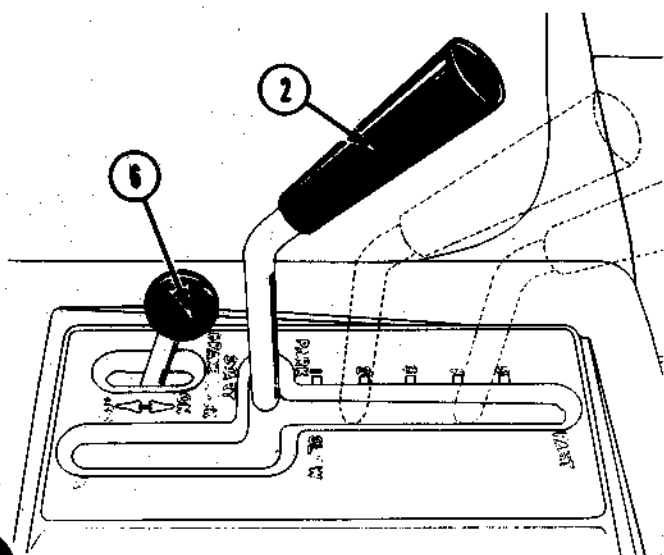
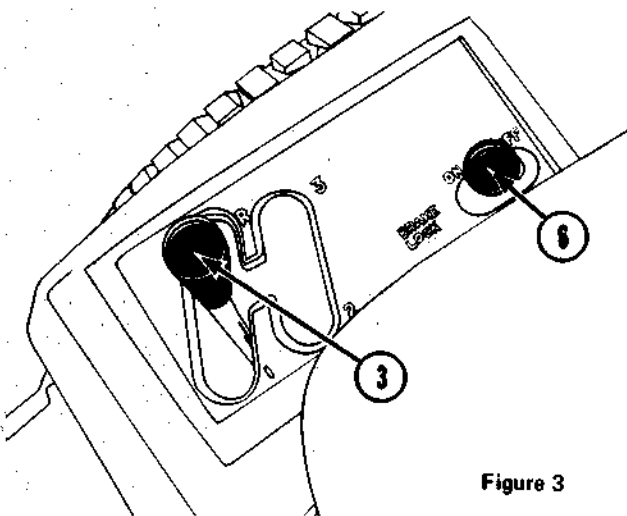

Figure 2
Figure 3
② HYDROSTATIC CONTROL LEVER (Hydrostatic Models — Figure 2)
③ GEAR SHIFT LEVER (Gear Shift Models) — Figure 3
THE GEAR SHIFT LEVER MUST BE IN THE FORWARD NEUTRAL POSITION AS SHOWN IN FIGURE 3 TO START THE ENGINE.
⑥ BRAKE LOCK — Figures 2 and 3
To lock the brake, push the brake lock forward with the foot pedal fully depressed. Then release the foot pedal. Figure 2 shows the brake lock engaged. Figure 3 shows it disengaged.